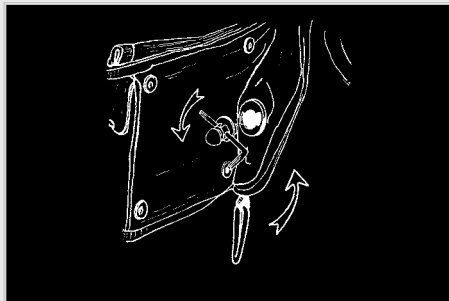

Fig. 8
- 1) Engage the locking pin in the base sewn on the BC (Fig. 8). This can be done by inserting a tool (for example an Allen wrench or a small screwdriver) into the hole and turning through 90° until it is engaged.